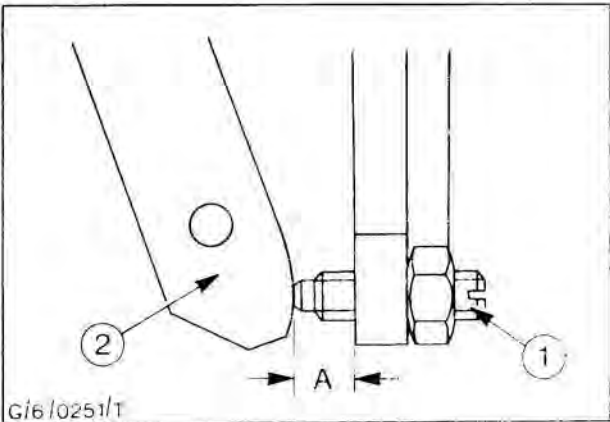

Fig. 7. Adjust low idle setting
1. Push the accelerator lever up against the idle speed adjustment screw, Fig. 7.